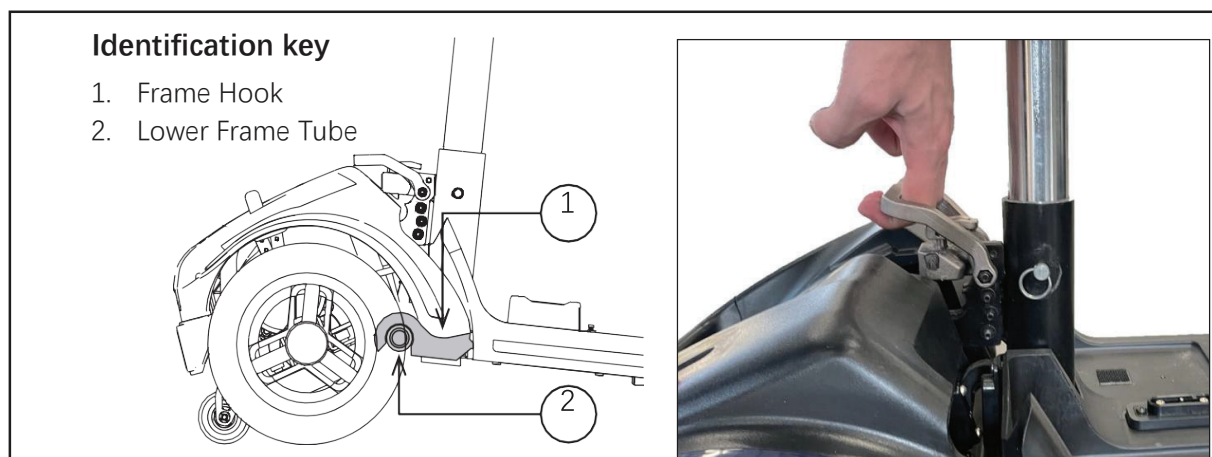

Figure 8. Frame Release Lever
**ATTENTION** — Before attempting assembly, tilt the rear half of the scooter slightly back on the anti-tip wheels as shown in Figure 8.
3. Slowly separate the two parts of the scooter. See Figure 8.
1. Use the front frame release lever to lift the front frame as you align the framehooks of the front frame with the rear frame tube of the rear frame. See Figure 8.
2. Once the frame hooks are over the rear frame tube, lower the front frame and pivot the rear frame simultaneously. This will engage the frame lock-up automatically. See Figure 8.